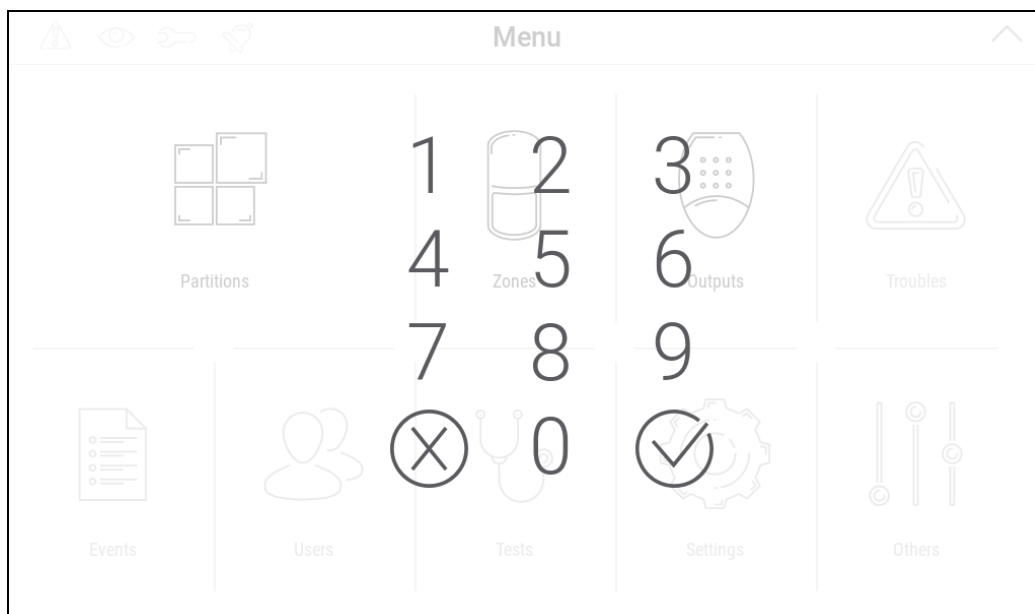

Fig. 9. On-screen keypad.
2. Swipe the screen up. The on-screen keypad will be displayed (Fig. 9).